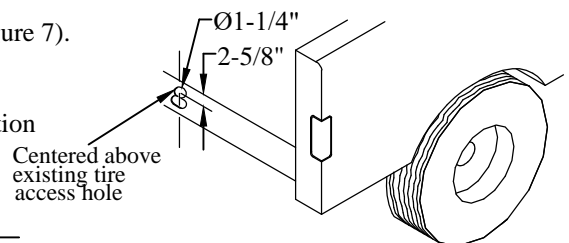

Figure 8: Spare tire access hole location.
3. **Drill** a 1-1/4" diameter hole, centered above the existing tire access hole, and 2-5/8" down from the top of the box (Figure 8). Some trucks have a vibration damper that conflicts with the drilled hole, the damper can be removed.